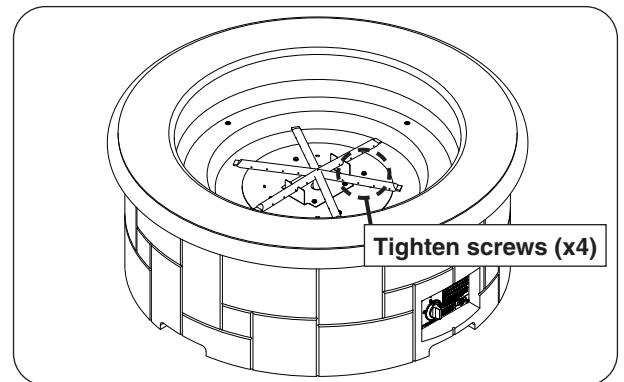

Fig. 31-3 Install burner
2. Use a  $\frac{5}{16}$ " nut driver to fasten the burner to the base (see Fig. 31-3).